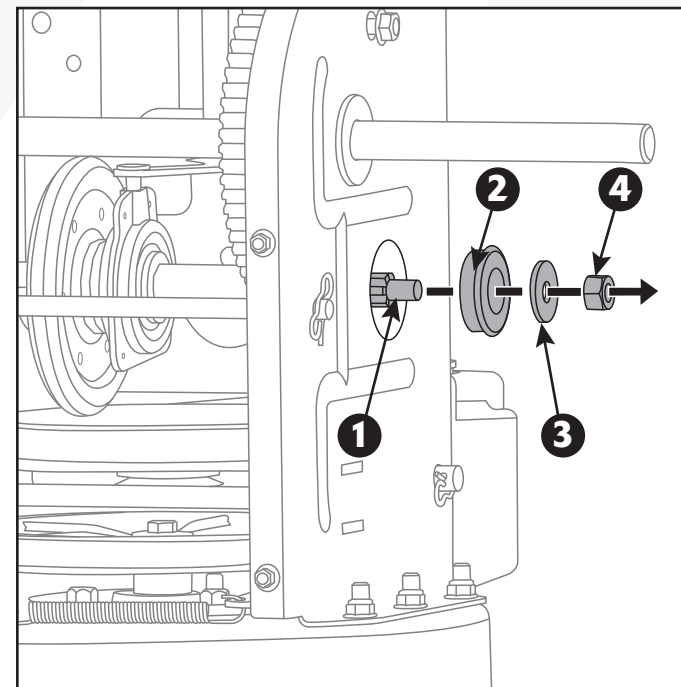

Fig. 20B
7. Carefully remove the hex nut, washer, and ball bearing from right side of the frame housing. (Fig. 20B)